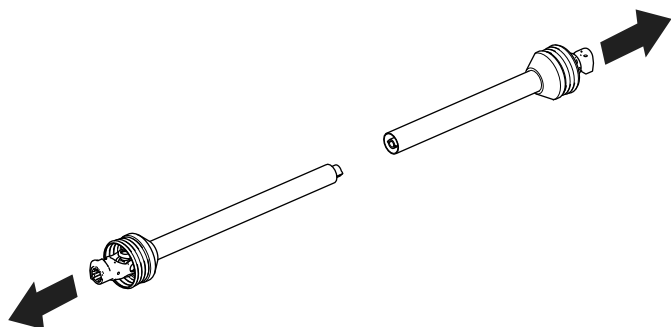

Figure 9
3. Pull the PTO driveshaft sections apart (Figure 9).